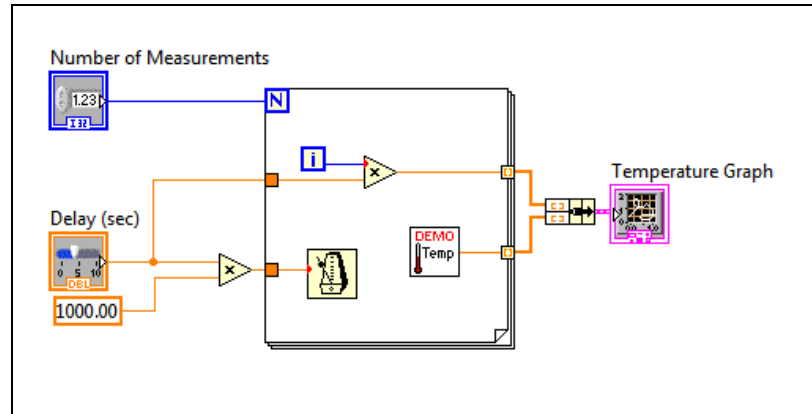

Figure 3. Using Temperature VI Block Diagram
6. Try changing the value of objects, resizing objects, and renaming objects until you are comfortable with using these tools. Figure 3 shows an example of the block diagram as it appears after your modifications. You move the **Number of Measurements** terminal and wire the terminal to the count terminal of the For Loop.
- ☐ Click and drag the terminal to the new location as shown in Figure 3.
- ☐ Move the cursor to the count (N) terminal of the For Loop.